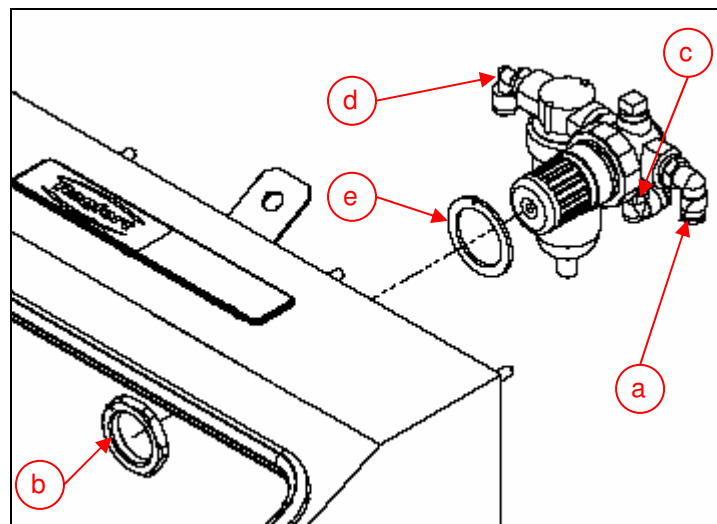

Fig. 4 - Filter - pressure regulator
- Disconnect the unit from pressured air supply by removing the supply hose at the hose connector (fig. 4 d).
- Pull the pressured air hose (for the foot switch) out of the push-in connector (fig.4 a).
- Pull the pressured air hose (for the foot pressure gauge) out of the push-in connector (fig.4 c).
- Unscrew the retaining nut of the filter pressure regulator unit (fig 4 b) and remove the regulator unit (fig. 4 a) unit to the rear side of the body.
- Install the new pressure regulator (fig. 4 a) together with the rubber sealing (fig 4 e) from the rear side of the body and attach it with the nut (fig. 4 b).
- Mark the bended hose nozzle (fig. 4 a) with a yellow adhesive tape.
- Push the pressured air hose (to the pressure gauge) into the push-in connectors (fig. 4 c) completely.